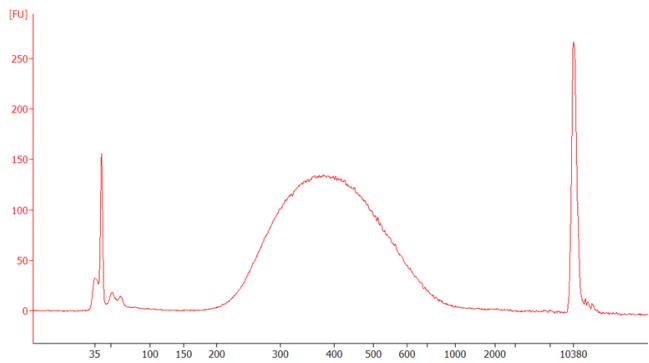

Figure 2. Electrophoresis trace data of a final hybrid capture library pool.
52. Assess the quality and size distribution of the library using a capillary electrophoresis device such as QIAGEN QIAxcel Advanced or Agilent Bioanalyzer 2100. Check for the expected size distribution (see Figure 2). For best sequencing results, quantitate the captured library using a qPCR assay such as the QIAseq Library Quant Assay Kit or compatible method.